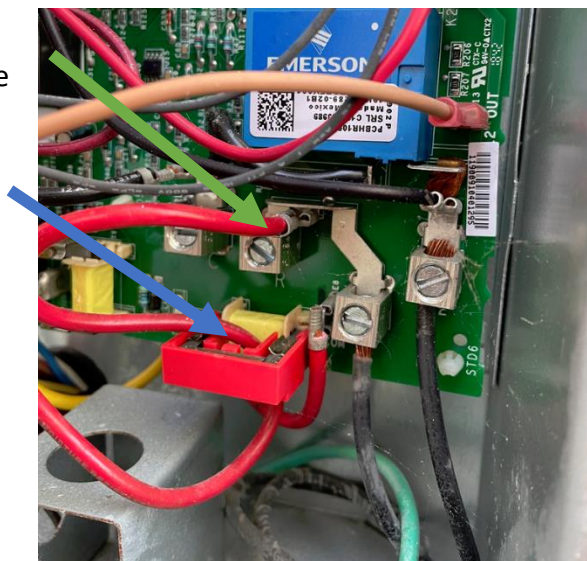

Figure 2
Step 2: Disconnect the red wire pointed to by the green arrow in figure 2. Pull it back out through the transformer pointed to by the blue arrow.